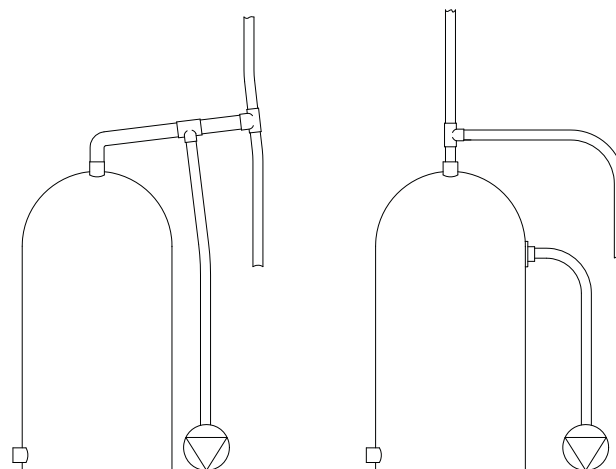

Fig. 8
- 2.28 **Hot water supply:** The pump **must be** supplied with a **dedicated feed** direct from the hot water cylinder or storage tank which should be via a secondary dedicated tapping (see Fig. 8).